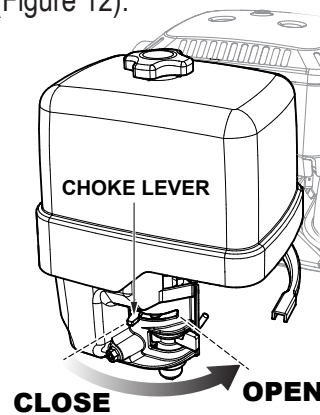

Figure 12. Engine Choke Lever (Open)
5. If starting a warm engine, or if the ambient temperature is warm, place the **engine choke lever** in the **OPEN** position (Figure 12).
8. If the engine has not started, repeat steps 1 through 7. If the engine has started and the choke lever was moved to the **CLOSED** position to start the engine, gradually move the choke lever to the **OPEN** position (Figure 12) as the engine warms up.